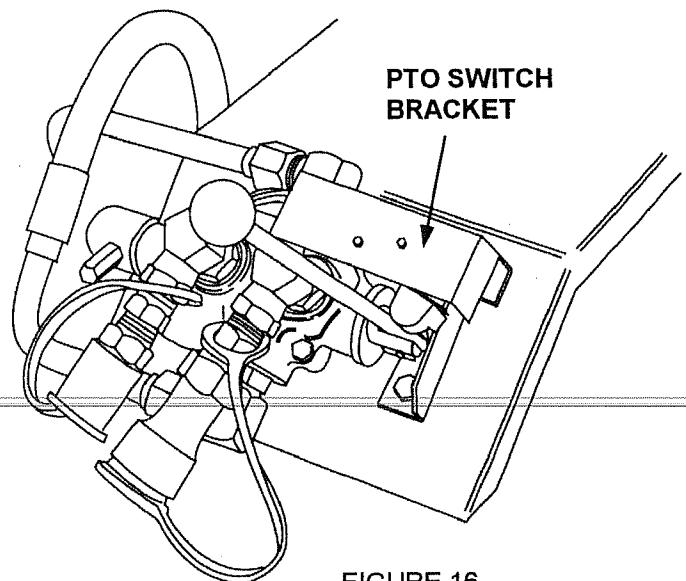

FIGURE 16
10. (See figure 16) Loosely install the PTO switch bracket to the rear fender. Use two 1/4" x 5/8" bolts and 1/4" flange lock nuts.